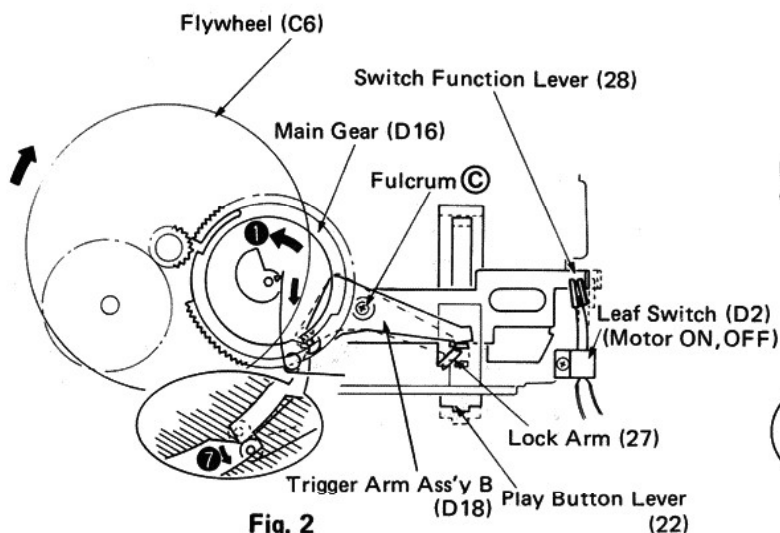

Fig. 2
- 1 In Fig. 2, when the PLAY button is pressed, the trigger arm assembly B (D18) and the switch function lever (28) are pushed by the play button lever (22) and locked by the lock arm (27).
- 3 As the trigger arm assembly B (D18) rotates around fulcrum ③ in the direction ⑦, the main gear (D16) is released and turns in direction ① to mesh with the gear of the flywheel (C6). (Fig. 2)